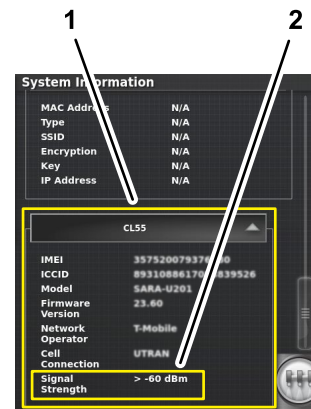

Figure 122
2. In the system information screen, use the scroll bar to navigate to the CL55 icon (Figure 122).
3. Press the CL55 icon to display the signal strength information.(Figure 122), and verify that the modem signal strength is between -60 dBm and -99 dBm.